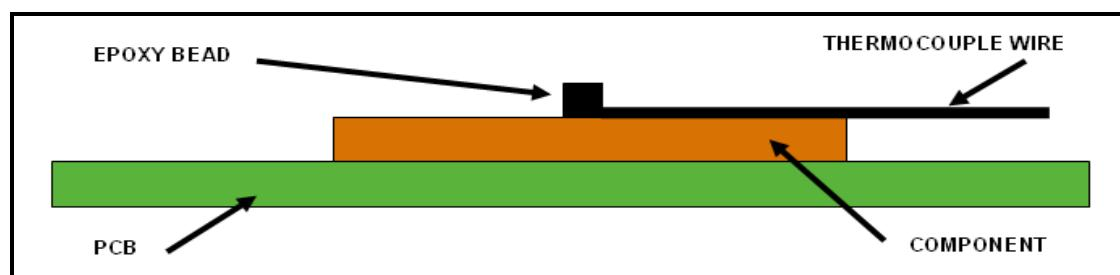

Figure 6. Technique for Measuring T_{case} with 0° Angle Attachment, No Heat Sink
- Attach the thermocouple at a 0° angle if there is no interference with the thermocouple attach location or leads (see Figure 6). This is the preferred method and is recommended for use with non-enhanced packages.